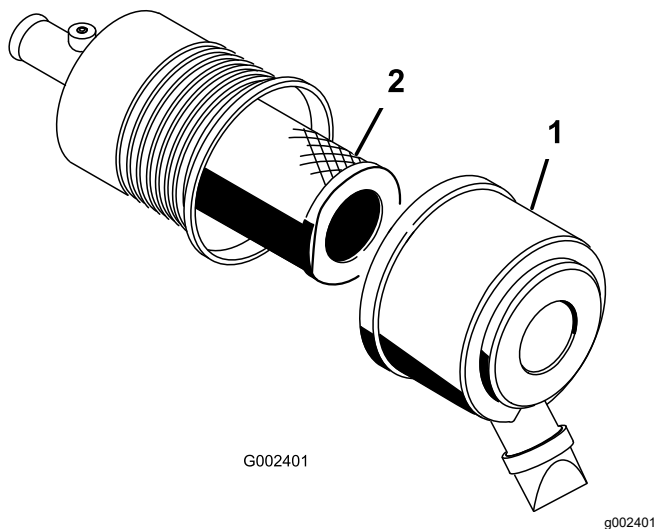

Figure 44
1. Release the latches on the air cleaner and pull the air-cleaner cover off the air-cleaner body (Figure 44).
3. Gently slide the filter out of the air-cleaner body (Figure 44).
5. Carefully slide the filter over the body tube (Figure 44).
6. Install the air-cleaner cover with the side facing up, and secure the latches (Figure 44).